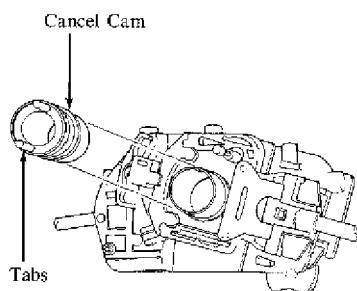

Fig. 2: Turn Signal Cancel Cam
3. Inspect the cancel cam. If the tabs are broken off the cancel cam, the combination switch can be repaired by replacing the cancel cam. See Fig. 2.